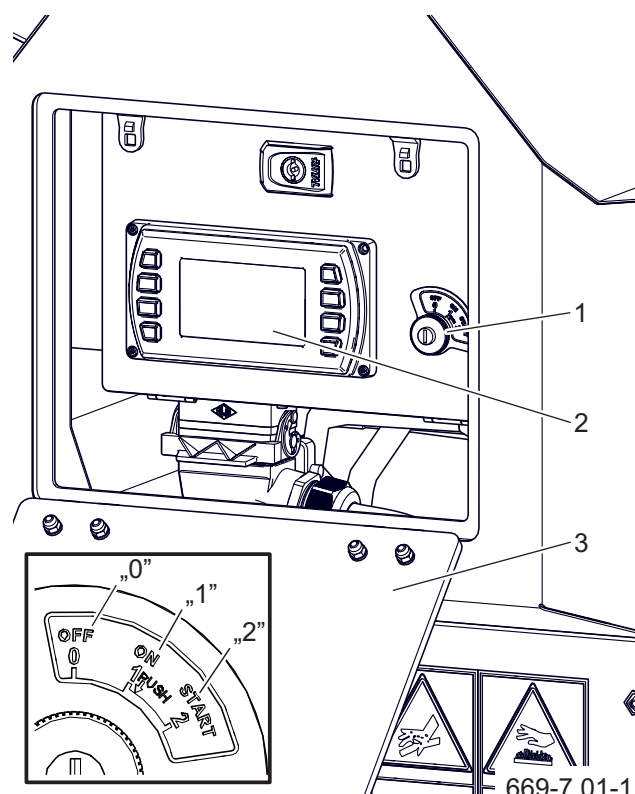

Figure 7.3 Starting the engine
- Open the cover (4) of the control panel (3). Insert the ignition key (1) into the ignition - Figure 7.3.
- Turn the key (1) to the ON "1" position, then to the START "2" position.